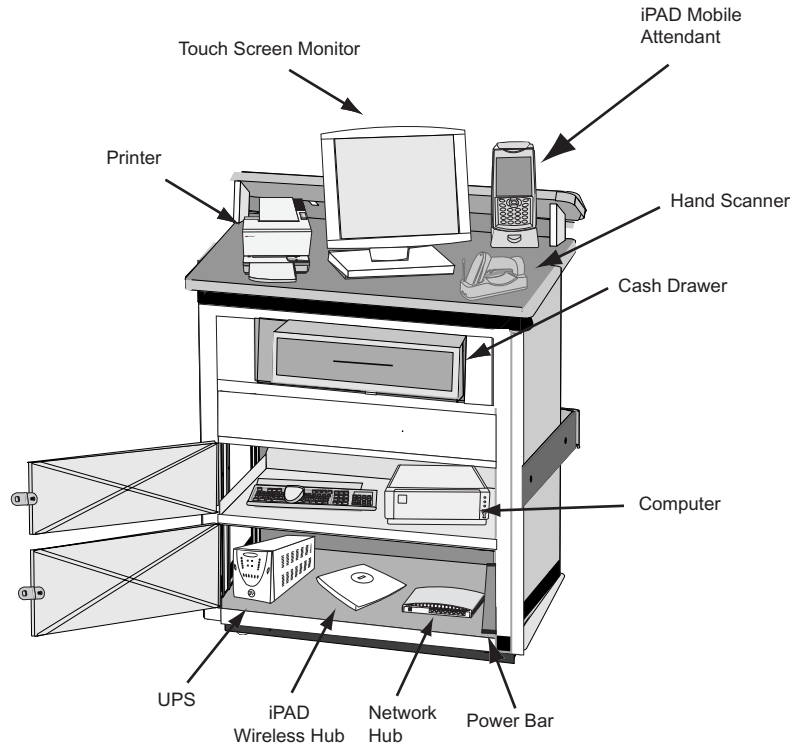

Figure 3.1 Attendant Station core components
Most of the Attendant Station's core components are mounted in the cabinet at the installation site. See Figure 3.1. The core components include:
- Relay SEM / Beeper (not shown in Figure 3.1)
Figure 3.1 shows the core components of the Attendant Station.